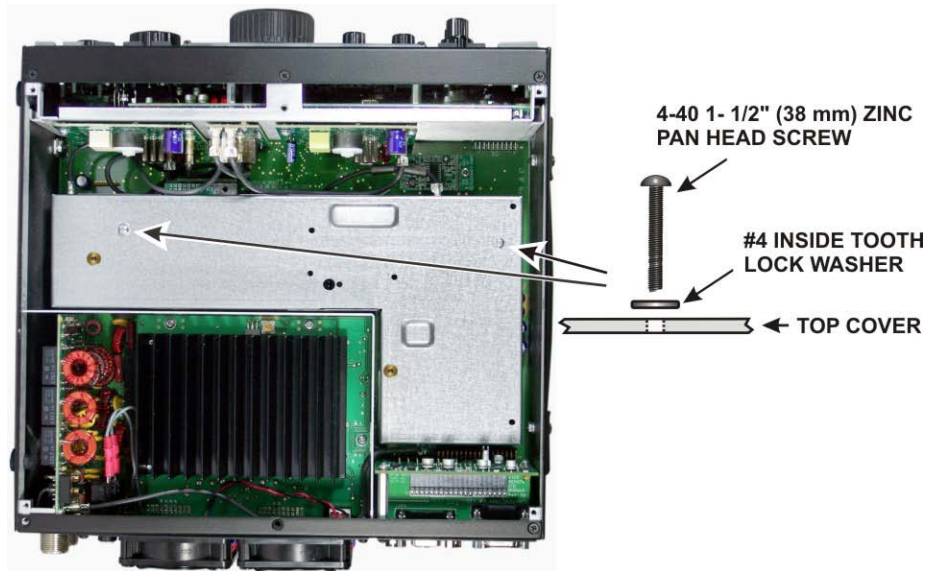

Figure 2. Removing the KRX3 or KRX3A Module.
If your K3S or K3 is equipped with the optional sub receiver, you must remove the sub receiver module to install the KAT3A. The sub receiver module is the “L” shaped metal enclosure (see Figure 2). Remove the sub receiver module as follows:
- Remove the two 1-1/2" (38 mm) screws and lock washers shown in Figure 2. These screws extend all the way through the sub receiver module and secure it to standoffs mounted on the main RF board .